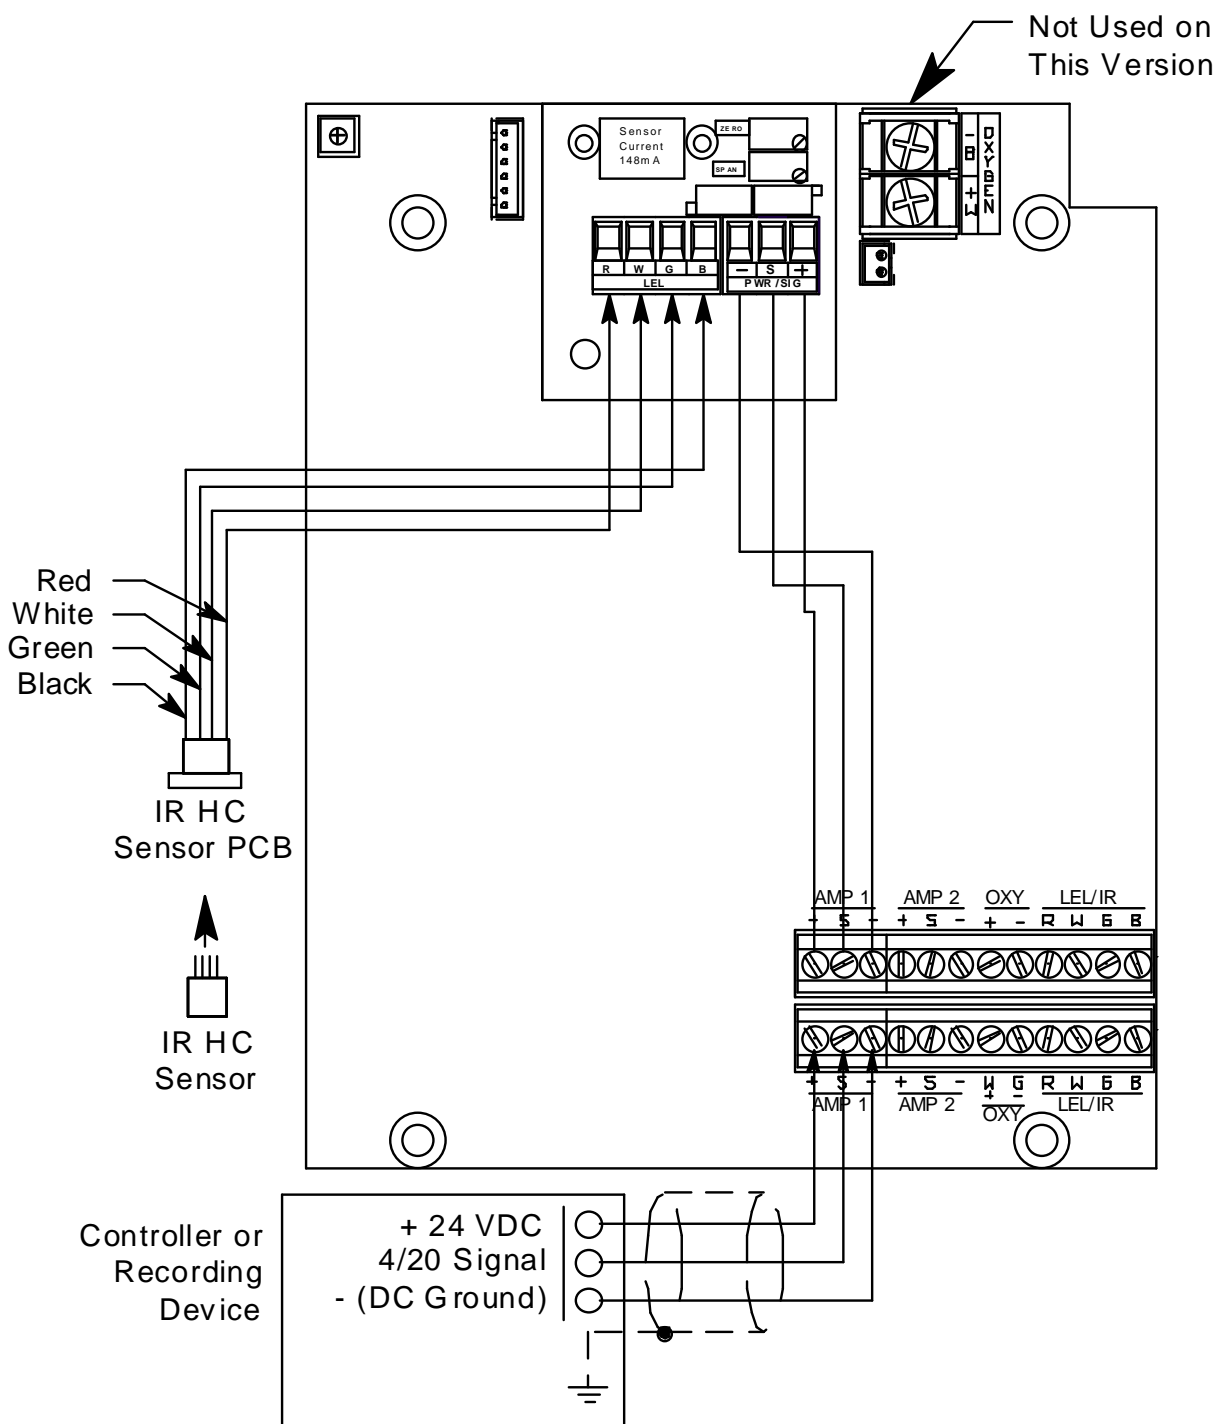

Figure 5: Wiring the Sample-Draw Detector to a Controller
5. Connect the cable to the sample-draw detector’s interconnect terminal strip as shown in Figure 5.
8. Connect the wires to the applicable detector/transmitter terminal strip at the controller as shown in Figure 5. Refer to the controller operator's manual and the controller detector head specification sheet for the 35-3001A-01-02 for detector/terminal strip connections specific to the controller.